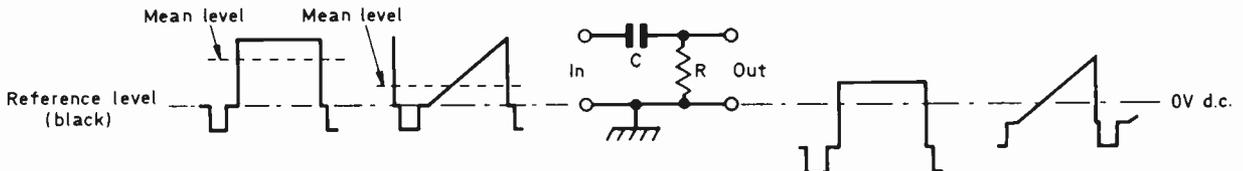

Fig. 1: The loss of the d.c. reference level that occurs when a video waveform passes through an  $RC$  coupling circuit.
D.C. information cannot pass through a capacitor. Fig. 1 shows at the left two video signals, one with only peak white in it and the other a sawtooth. If both these signals are passed through an  $RC$  coupling circuit as shown the result is a loss of the d.c. component. The outputs take up the mean level of each signal—different in each case—and the reference black level is removed.
A.C. coupling is used between stages in television receivers and the d.c. datum of black level is thus inevitably lost. Direct coupling between stages could be used—avoiding the use of coupling capacitors—but such stages are difficult to make stable cheaply and are therefore impractical for domestic equipment. To replace the d.c. component after using  $RC$  coupling is relatively easier and there are two basic solutions available: (1) the d.c. restorer; (2) the clamp.